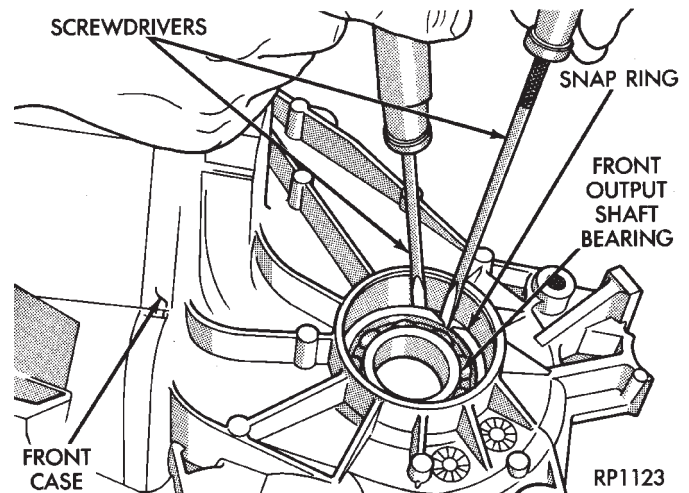

Fig. 29 Removing/Installing Front Output Shaft Bearing Snap Ring
(1) Lubricate components with automatic transmission fluid (or petroleum jelly where indicated) during assembly.
(2) Remove front output shaft seal from front case.
(3) Remove front output shaft bearing snap ring (Fig. 29).
(5) Secure front output shaft bearing in front case with a new snap ring (Fig. 29).
(6) Install new front output shaft seal in front case.